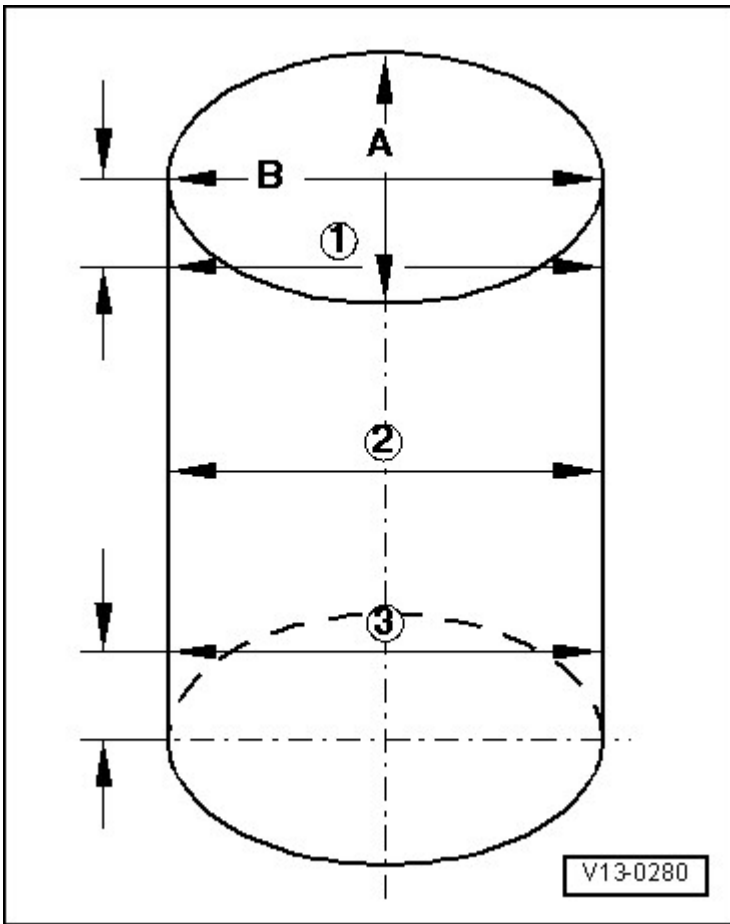

Fig. 16: Identifying Cylinder Bore Dimensions
- Measuring cylinder bore, refer to **Fig. 16**